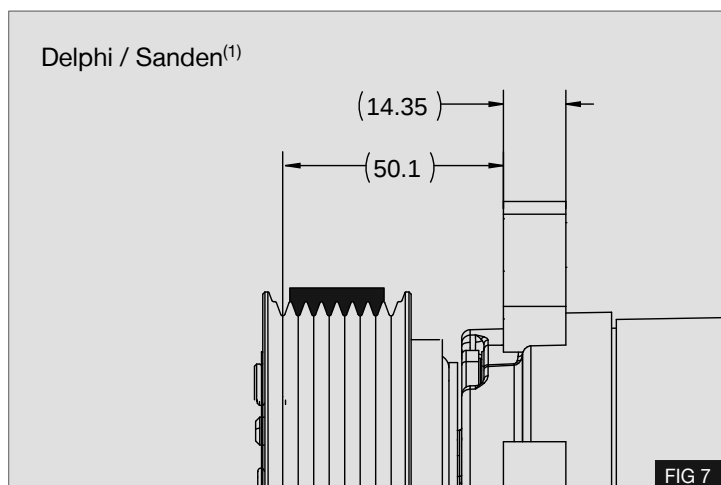

FIG 7
- B. Delphi / Sanden(1) compressors - Belt is installed with 1 spare groove at the front of the compressor pulley - Fig 7